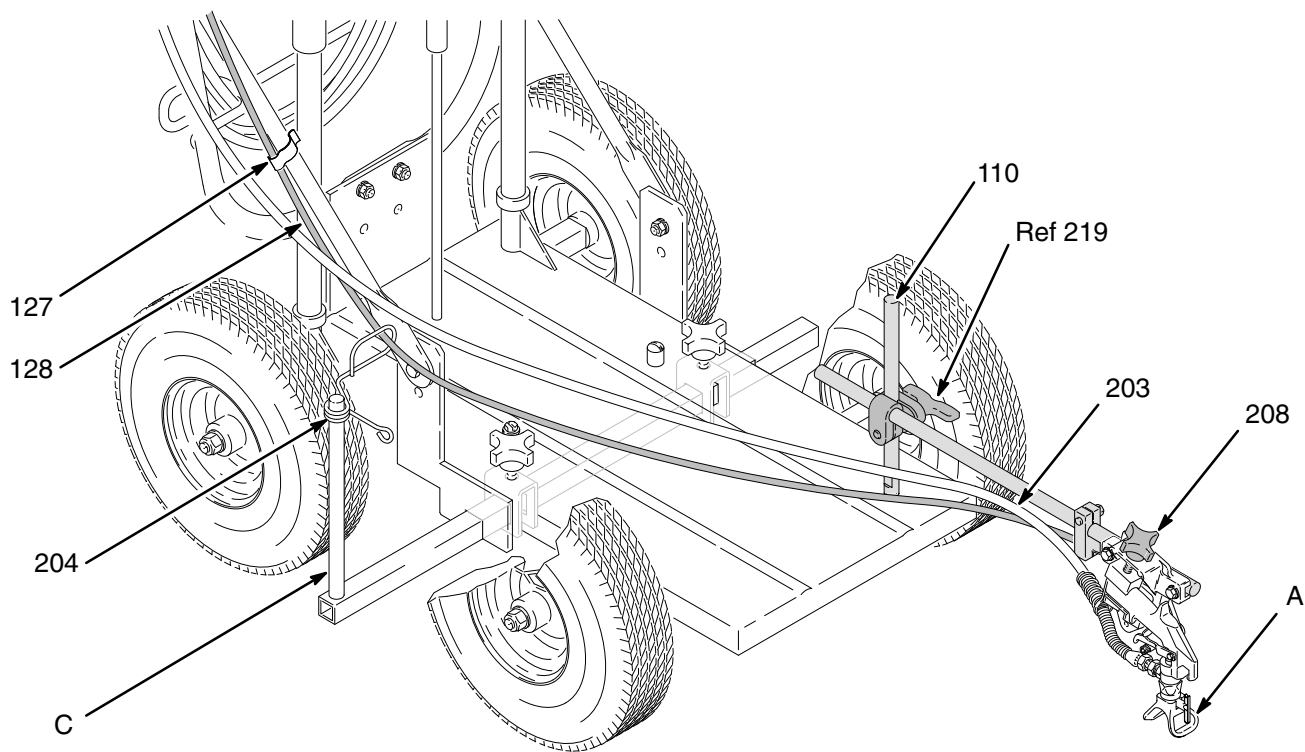

Fig. 23
- a. Disengage the trigger cable (128) and engage the gun trigger safety latch. See page 7.
- b. Remove the guide (204) and slide the clamp, support arm and gun assembly off the original vertical bar (C). See Fig. 23.
- c. Reinstall the guide (204) on the original vertical bar. See Fig. 23.
- d. Slide the clamp, support arm and gun assembly on to the front gun holder bar (110). See Fig. 23.